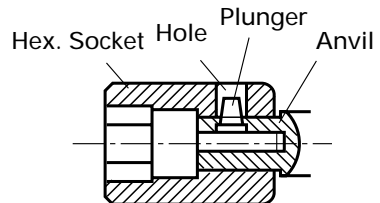

Fig. 12
3. Mounting the socket (Fig. 12)